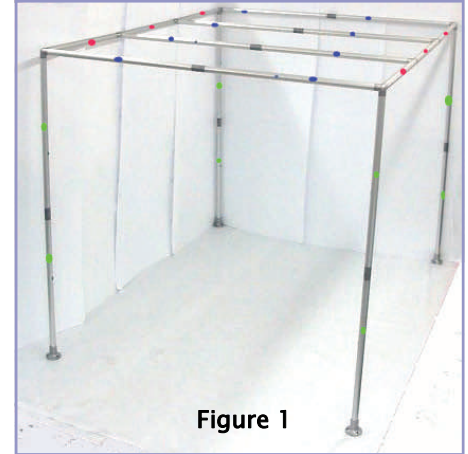

Figure 1
3. Assemble aluminum Tubing (**green dot**) with aluminum Couplers (PN W140) to make (4) vertical leg supports.
9. Set completed frame assembly up onto the legs. Frame assembly will be completed at this time. See Figure 1.
10. Unroll and lay out tent so that the door is at the desired open side of the frame. See Figure 1. Open the door a little to help expand the tent.